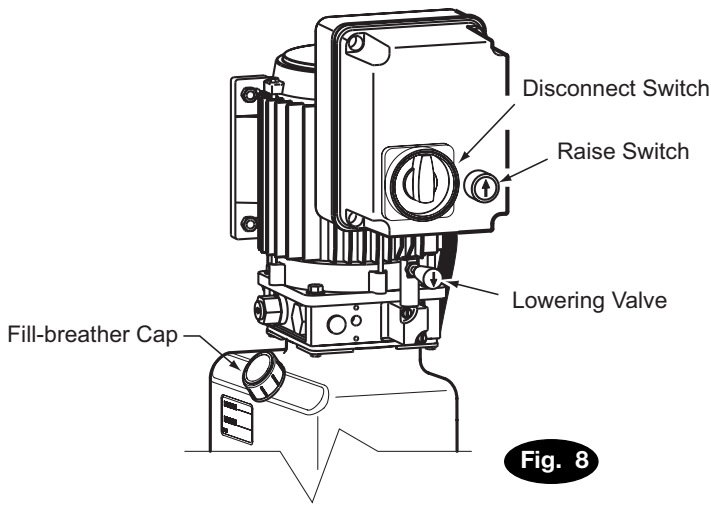
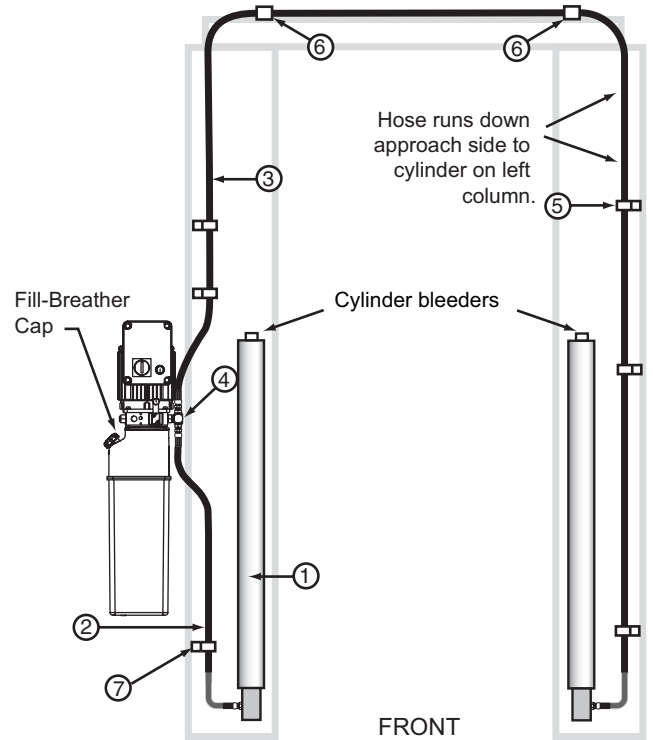

Fig. 8
Fig. 9
14. **Oil Filling & Bleeding:** System capacity is (14) liters. Use Dexron III or equivalent ATF. Remove fill-breather cap, Fig. 8. Pour in (8) liters of fluid. Start unit, raise lift about 650mm. Open cylinder bleeders approx. 2 turns, Fig. 9. Close when fluid streams. Fully lower lift. Add more fluid until it reaches the fill line.